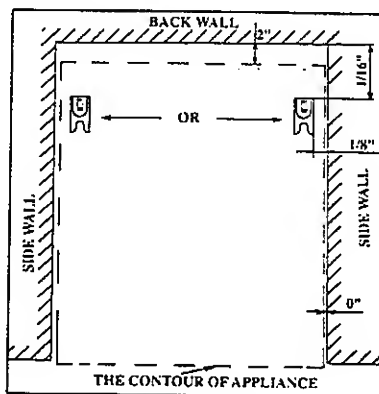

Figure 4
1. Place the anti-tip bracket on the floor as shown in Figure 4. If there is no sidewall, the dimension given as 1/8" will be the distance of right/left side of appliance to right/left side of anti-tip bracket. Anti-tip bracket can be installed on either right or left side.